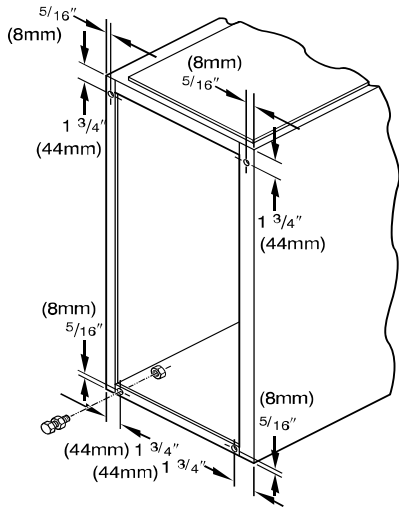

Fig. 10 – Leveling Legs
In upflow position with side return inlet(s), leveling legs may be used. (See Fig. 10). Install field-supplied, 5/16 X 1-1/2 in. (8 X 38 mm) (max) corrosion-resistant machine bolts, washers and nuts.
1. Position furnace on its back. Locate and drill a hole in each bottom corner of furnace. (See Fig. 10).